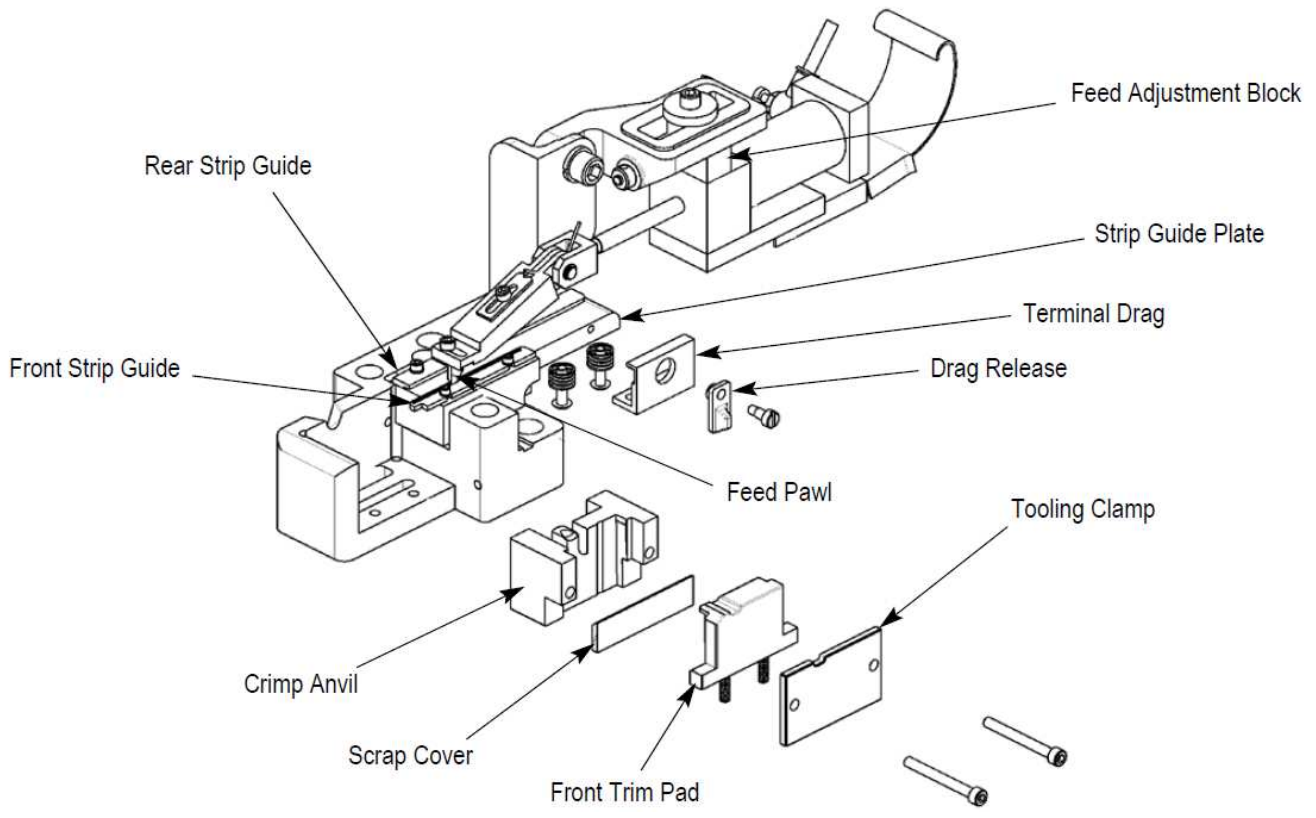

Figure 16
3. Terminal Strip Feed Adjustment (Figure 16)